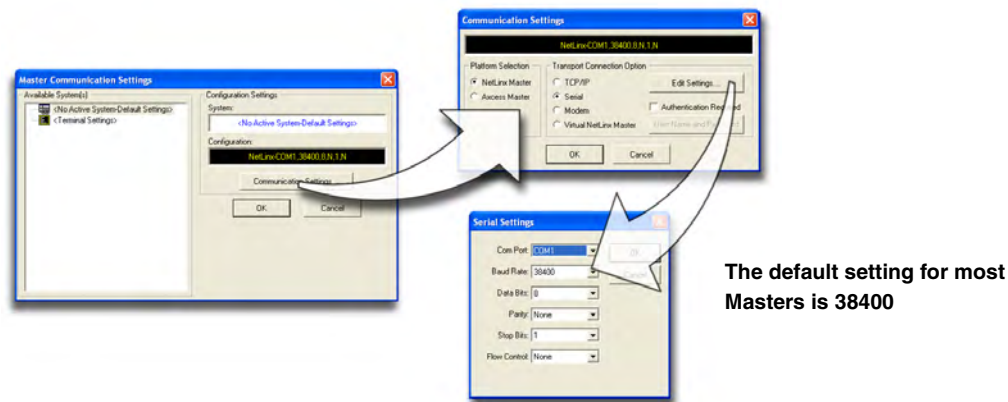

FIG. 24 Assigning Master Communication Serial Settings and Baud Rates
2. Select **Settings > Master Communication Settings**, from the Main menu, to open the Master Communication Settings dialog (FIG. 24).
3. Click the **Communications Settings** button to open the Communications Settings dialog (FIG. 24).
6. Click the **Edit Settings** button to open the Serial Settings dialog (FIG. 24).